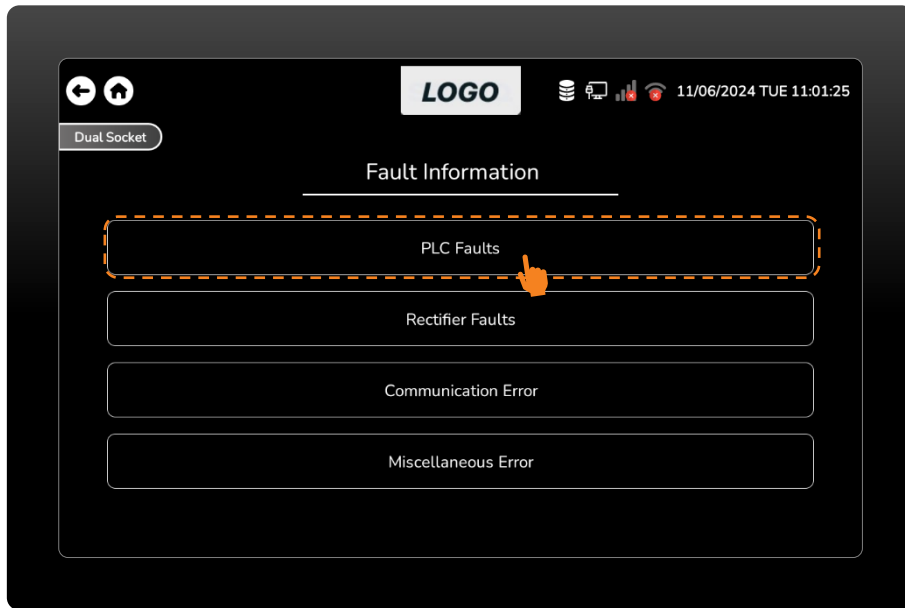

Figure 72 Press the PLC Faults Button.
- To get information about PLC faults, press the PLC faults button. (Figure 72)